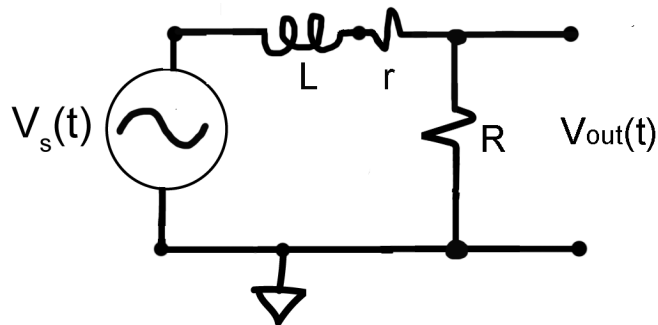

Figure 6.3
Q.5 Design a LR low-pass filter with $f_{3dB} = 8.0$ kHz (Figure 6.3). Include a SCREENSHOT from the oscilloscope of the rough performance that shows that the 3dB point is within design criteria. A nice way to accomplish this is with an image of the frequency sweep.